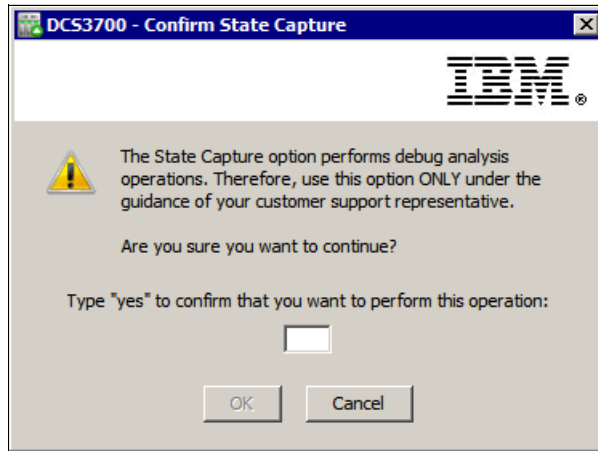

Figure 13-21 Confirm State Capture
2. Click **Browse** to specify the location and file name of the state capture information file (the default file extension is .dmp). Then, click **Start** to begin saving the file. You are prompted to confirm that you want to save the state capture data (Figure 13-21). Enter yes in the box to confirm and then click **OK** to continue.